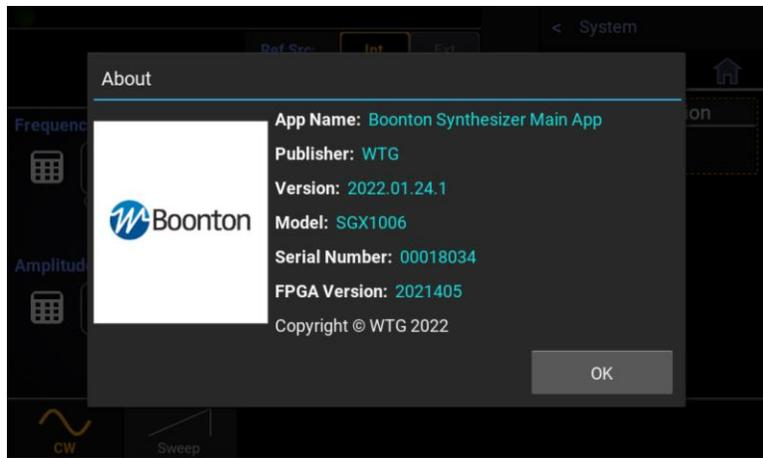

Figure 2-3. System > Configuration Report Display
6. On the front panel, press the ● key to bring up the on-screen menu. From the Main menu, use the touch screen or the ◀, ▶, ▲, ▼, and ● keys on the front panel to browse to System→Reports and select Show. A display like Figure 2-3 should appear.